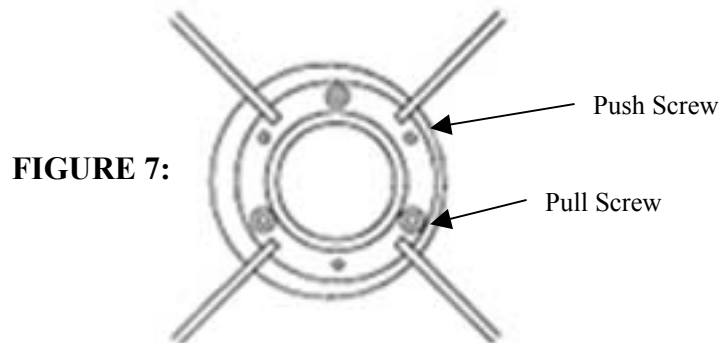

FIGURE 7:
- a. Place the Diagonal Mirror back in its holder and loosely tighten the diagonal collar set screws (Figure 2). Also, slightly loosen the push screws and the pull screws on the diagonal holder. The diagonal mirror should be safely in place but should be easily moved in all directions by hand without undue force. (Figure 7)